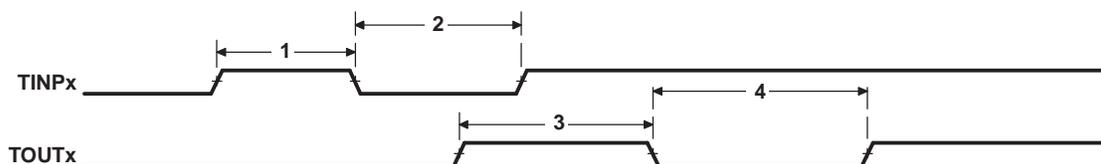

Figure 5-48. Timer Timing
### 5.14.1 Timing Requirements for Timer Inputs (1) (see Figure 5-48)
### 5.15.1 Timing Requirements for GPIO Inputs(1) (2) (see Figure 5-48)